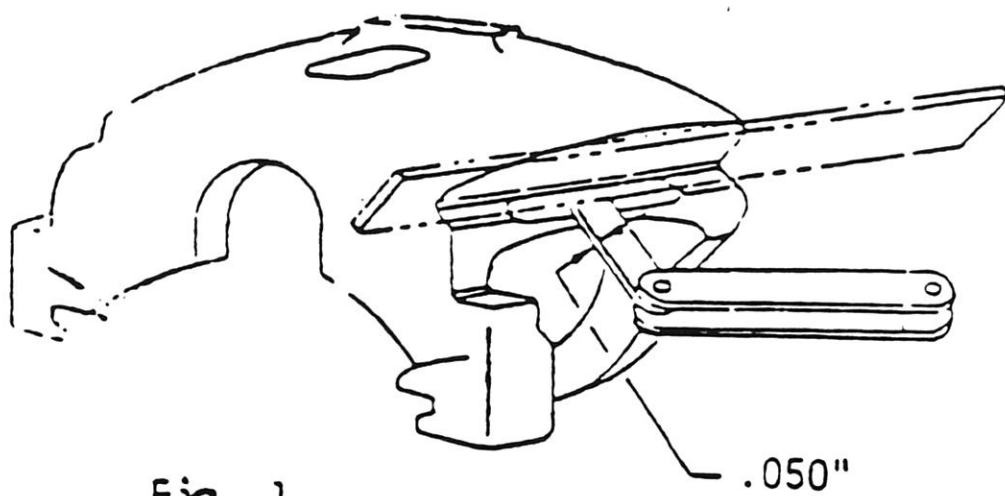

Fig. 1
3. Lay a straight edge across the caliper V-way surfaces (see Figure 1) and measure with a feeler gauge the maximum depth of any wear on these surfaces. Calipers worn to a depth of .050" or more should be replaced.